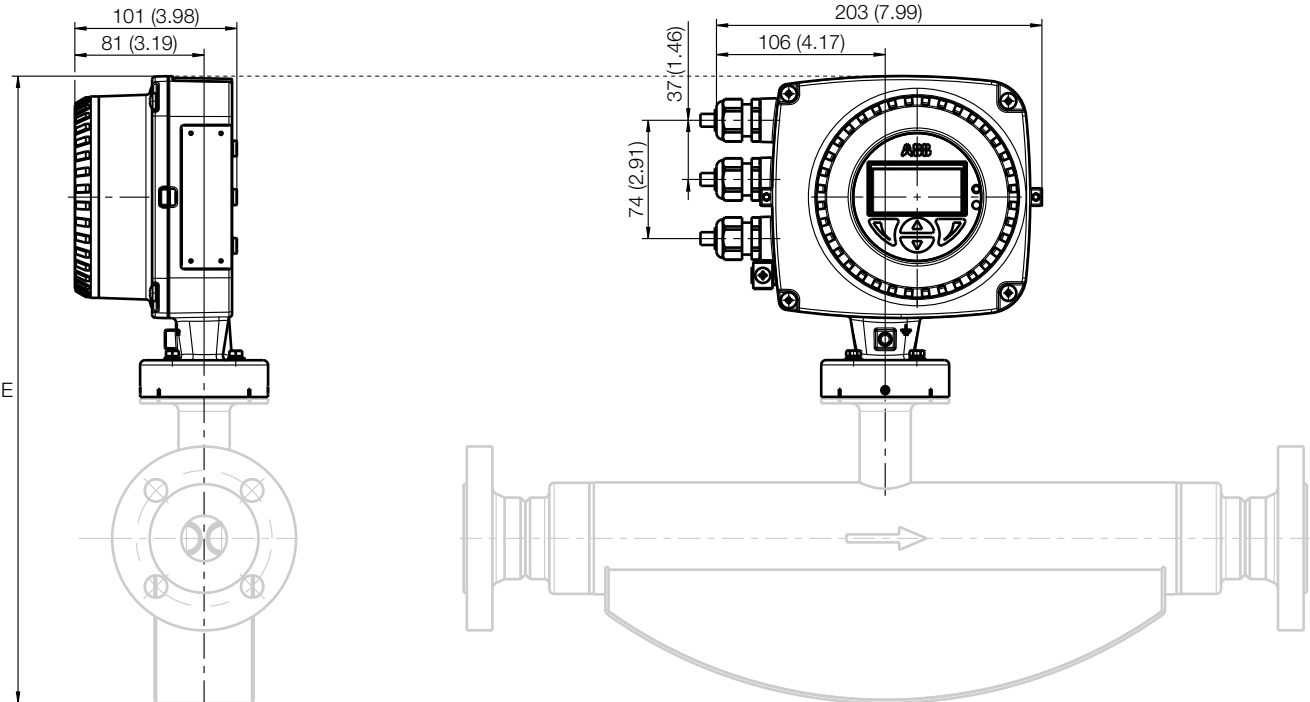

Fig. 28: Integral mount design with single-compartment transmitter housing
In integral mount design devices, the height (E) and the dimensions provided in Fig. 28 differ from the dimensions of the devices with dual-compartment transmitter housings.
- To the height (E), 13 mm (0.51 inch) must be added.